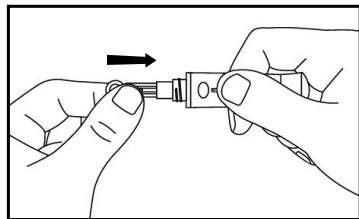

Fig. 23
Step 2: Insert a sterile lancet into the lancet holder and push it until stop in the lancet holder.(Ref Fig. 23)